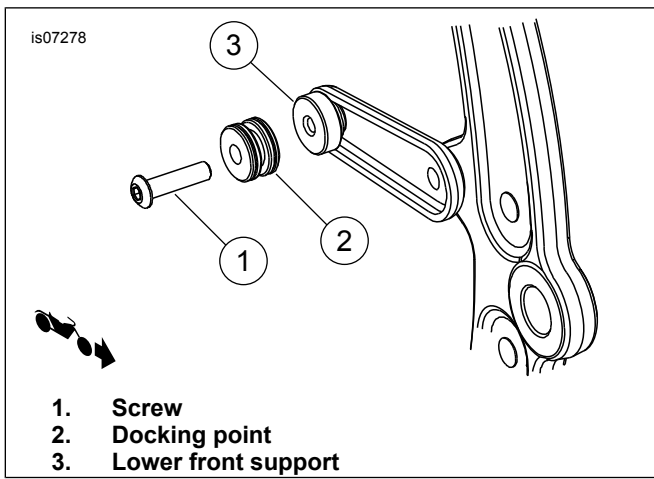

Figure 6. Lower Front Docking Point (Without Other Detachable Accessories)
1. See Figure 6. Install mini docking point (2) onto screw (1).
3. Install screw into threaded portion of lower front support (3). Tighten screw to 16.3–24.4 N·m (12–18 ft-lbs).